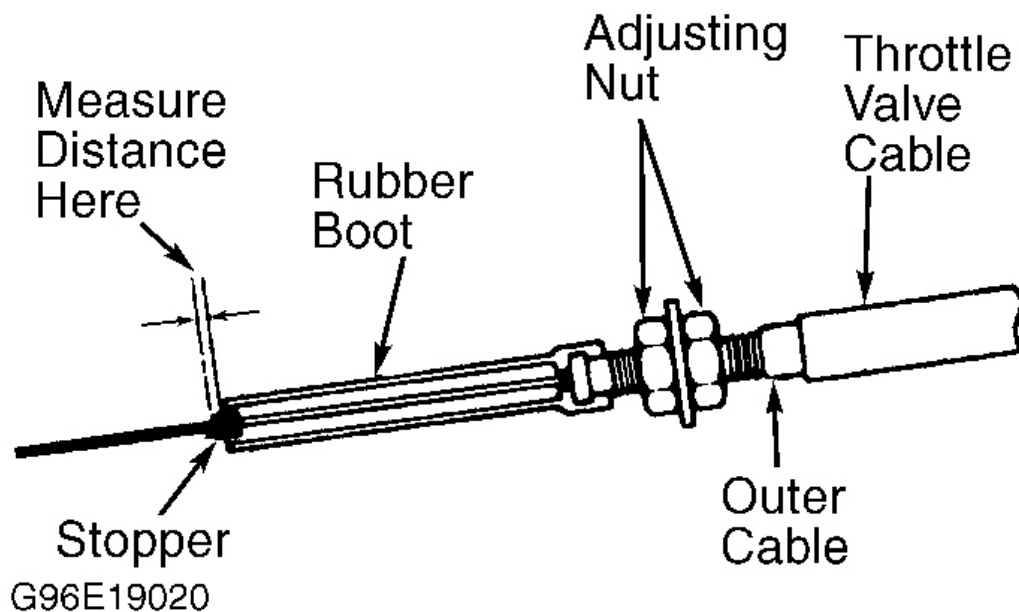

Fig. 6: Measuring Distance On Throttle Valve Cable (Corolla 1.6L 4A-FE, Pickup, Previa Non-Supercharged, Tacoma 2WD 2.4L 4-Cyl., Tercel & 1995 4Runner)
2. Ensure accelerator pedal is fully depressed. Loosen adjusting nuts on throttle valve cable. Adjust outer cable so distance between end of rubber boot and stopper on throttle valve cable is 0-.04" (0-1.0 mm). See **Fig. 6** . Tighten adjusting nuts. Recheck distance once adjusting nuts are tightened.